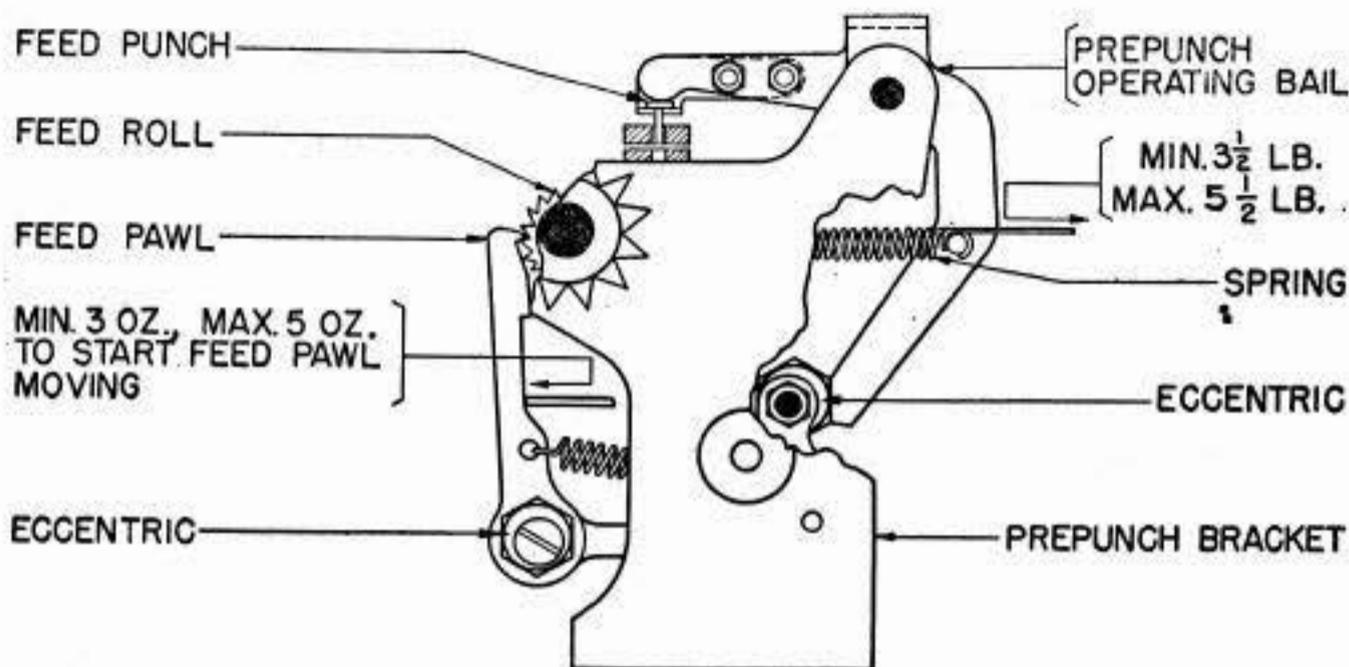

Fig. 45
2.79 Prepunch Feed-Pawl Eccentric: (Preliminary Adjustment) (Final 2.82.) The feed pawl should rest in the bottom of the first notch below the horizontal center line of the feed roll with the punch-arm roller on the low part of its cam. **Fig. 45**
- (a) With the detent roller in engagement with the feed-roll star wheel, rotate the receiving shaft until the feed pawl is in its uppermost position. Hold the detent roller away from the star wheel and continue to rotate the receiving shaft until the feed pawl is in its lowermost position. The feed roll should have rotated one full step. **Fig. 45**
- (1) To check, allow the feed-roll-detent lever roller to come in engagement with the feed-roll star wheel. The star wheel should not rotate in a clockwise direction and the clearance between the detent roller and the face of the tooth directly below the roller should not exceed $.015''$. Check these requirements at four points on the star wheel approximately 90° apart.
- (2) To adjust, position the feed-pawl eccentric.
2.86 **Prepunch Operating-Bail Spring:** It should require Min 3-1/2 lb., Max 5-1/2 lb. to start the prepunch arm moving with the punch-arm roller on the low part of its cam and the prepunch operating-bail lower extension held against the operating-bail eccentric. **Fig. 45**
2.88 **Prepunch Feed-Pawl Spring:** It should require a pull as indicated in Fig. 45 to start the feed pawl moving away from the feed-roll ratchet with the main shaft in the stop position. **Fig. 45**